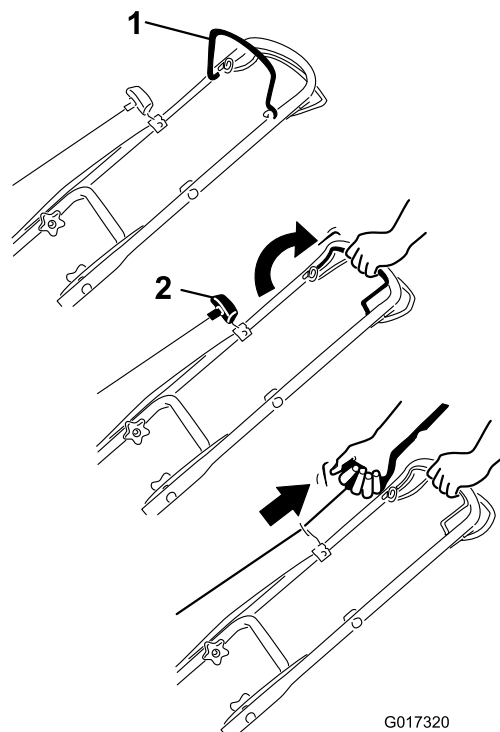

Figure 11
1. Hold the blade-control bar against the handle (Figure 11).
2. Pull the recoil-start handle lightly until you feel resistance, then pull it sharply. Allow the rope to return to the handle slowly (Figure 11).